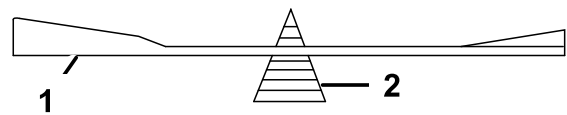

Figure 93
2. Check the balance of the blade by putting it on a blade balancer (Figure 93).